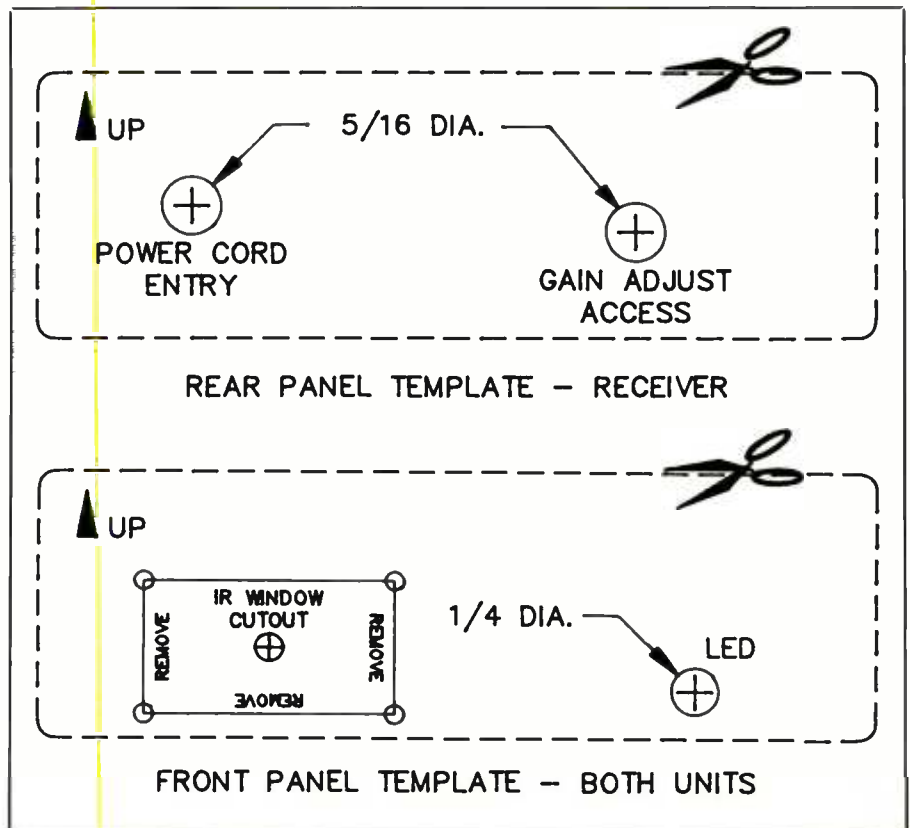

Fig. 12. Machining templates for rear (A) and front (B) panels of receiver enclosure.
Machine the enclosure that will house the receiver module. This is done in basically the same manner that was described last month for the transmitter module, except that an extra hole, to provide access to trimmer GAIN ADJUST potentiometer *R1* is required in the rear panel. If you are using the type of enclosure supplied with the kit (see Parts List), use the actual-size machining templates provided in Fig. 12 as guides for the rear (A) and front (B) panels. If you are using any other type of enclosure,